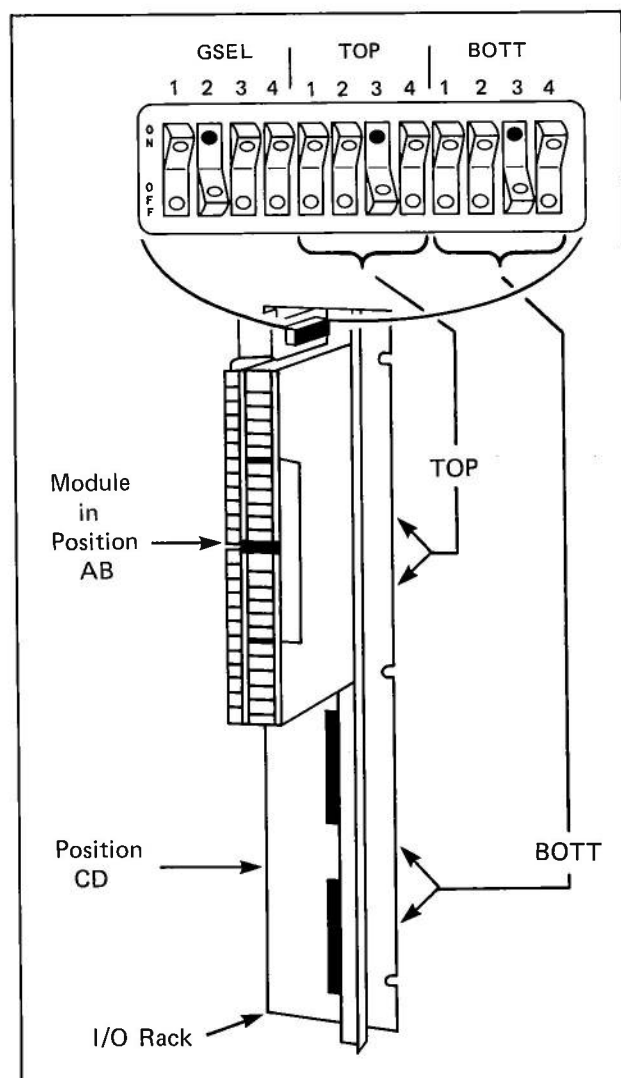

Figure 5 — Rack Switch Location
Step 4 – Refer to system drawings and determine which I/O Rack and which Position in the Rack the Module is to be placed. (Although a Module can be placed in either the upper 2 Positions or the lower 2 Positions, it may not straddle Positions B and C. See Figure 5.) It is
Step 4 — At the top right-hand side of **that** I/O Rack, locate the Rack Switch assembly. (See Figure 5.) Note that it is divided into 3 groups of 4 rocker switches each. Locate those that make up the GSEL area.